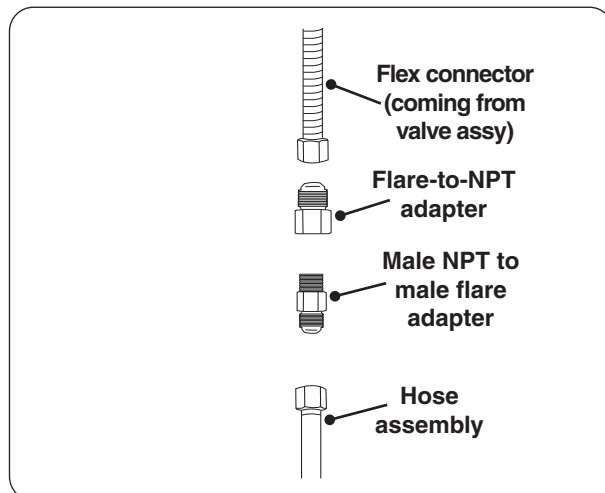

Fig. 35-1 Connecting flex to hose assy
1. Connect the L.P. regulator hose assembly (not included) to the flex connector that is coming off of the valve assembly (see Fig. 35-1).